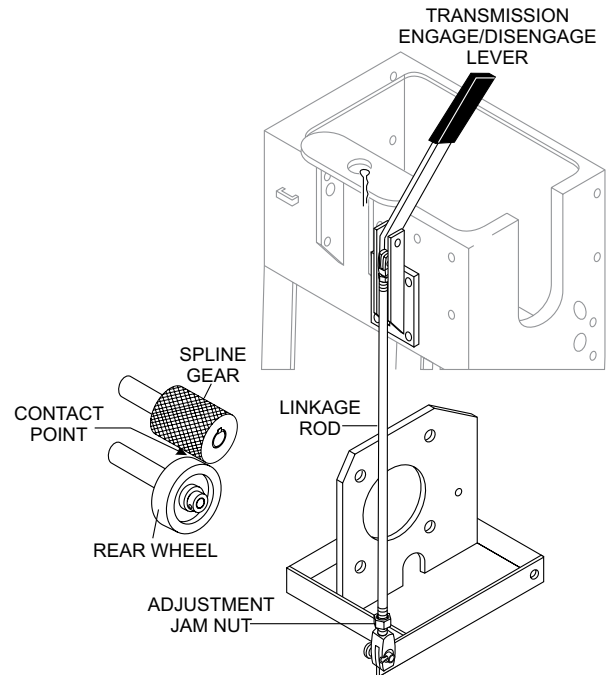

Figure 50. Linkage Adjustment
2. Loosen the linkage adjustment nut and slightly lengthen the linkage rod (Figure 50).